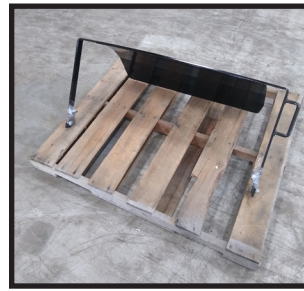
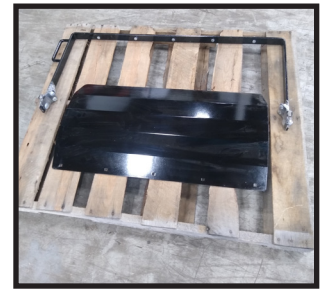

Fig 1.
Fig 2.
1. The End Gate may be shipped one of two ways, either a (1) piece welded tailgate (**Fig 1**) or a (2) piece End Gate that will need to be assembled (**Fig 2**).
2. If you have the (1) piece welded End Gate shown in **Fig 1**, go directly to page 4 and begin assembling it to the Classic Spreader.
3. If you have the (2) piece End Gate shown in **Fig 2**, follow steps 4 thru 14 before going to page 4 to assemble it to the Classic Spreader.